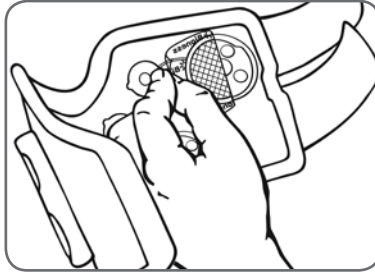

Figure 53: Attaching the hydrogel electrodes to the hydrogel electrode bases.
6. Attach the grid side of the hydrogel electrodes to the hydrogel electrode bases, and then press firmly. See Figure 53.